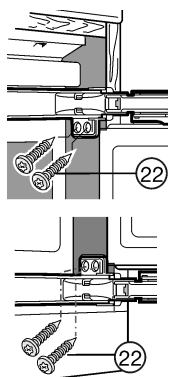

Fig. 16
- ▶ By screwing long Spax screws *Fig. 16 (22)* through the top and bottom hinge plates.